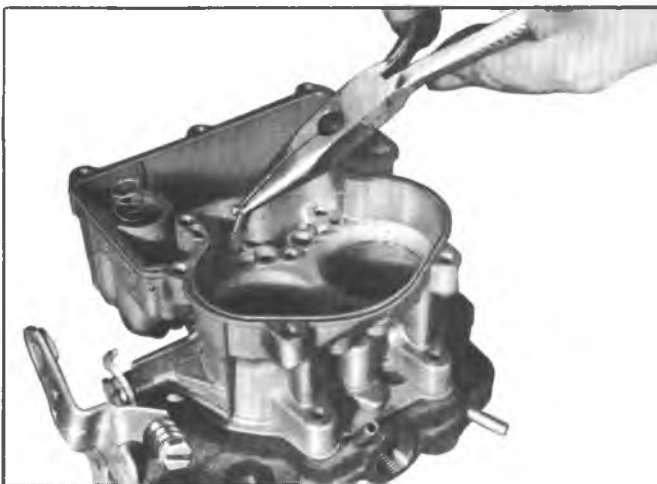

Fig. V4--Removing Pump Discharge Spring Retainer
- Using a pair of long nose pliers, remove the pump discharge spring retainer (Figure V4). Then the pump discharge spring and check ball may also be removed.